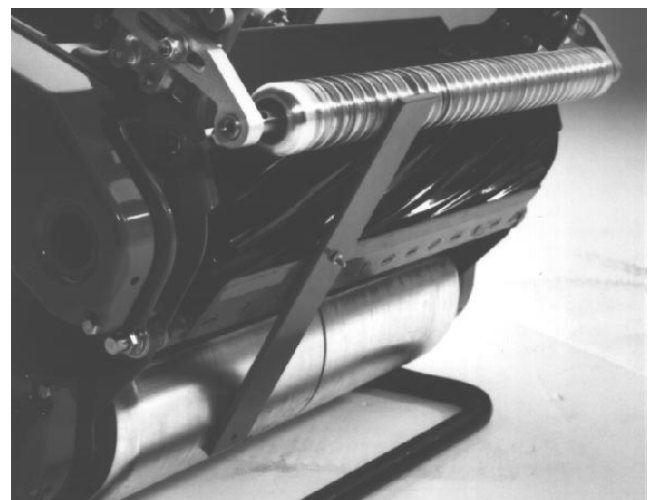

Figure 15
5. Hook adjusting screw head on the cutting edge of the bedknife. Rest the rear end of the bar on the drum (Fig. 15).